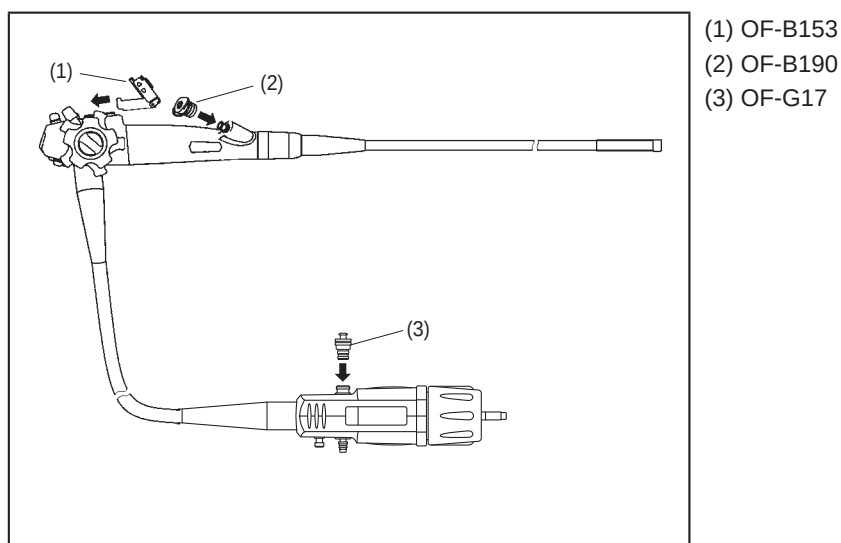

Figure 1.2.26
- 3) After soaking, attach OF-B190, OF-B153, and OF-G17 to the endoscope. (see Figure 1.2.26, p33)
- 6) Attach OF-B190, OF-B153, and OF-G17 to the endoscope. (see Figure 1.2.26, p33)